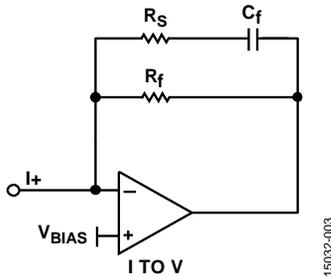

Figure 3. I to V Stage
An ideal I to V converter for a current output DAC is a resistor to ground. However, most DACs do not operate linearly with voltage at the output. It is standard practice to operate an operational amplifier as an I to V converter, creating a virtual ground at the inverting input. Normally, the operational amplifier output stage absorbs clock energy and current steps. However, Figure 3 shows the C_F capacitor shunts high frequency energy to ground while correctly reproducing the desired output with extremely low THD and intermodulation distortion (IMD).
- R_F is the feedback resistor. For lowest noise, maximize gain in the first stage (I to V). However, distortion is related to the open-loop gain (A_{OL}) of the operational amplifier. The higher A_{OL} , the better the distortion performance. Normally, A_{OL} is specified within certain output voltages (see Figure 3). The ADA4896-2 A_{OL} must be 100 dB minimum when the output is -4 V to 4 V at ± 5 V power supply, or when distortion increases beyond -4 V to 4 V. Assuming the maximum output current of a DAC is 1 mA, then,